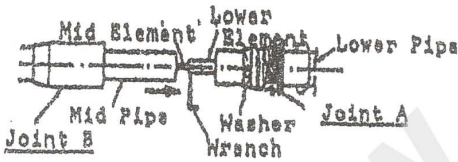

Fig. 2
- (A) Joint the Lower Element and the Mid Element using Hex. Wrench, (See Fig. 2)